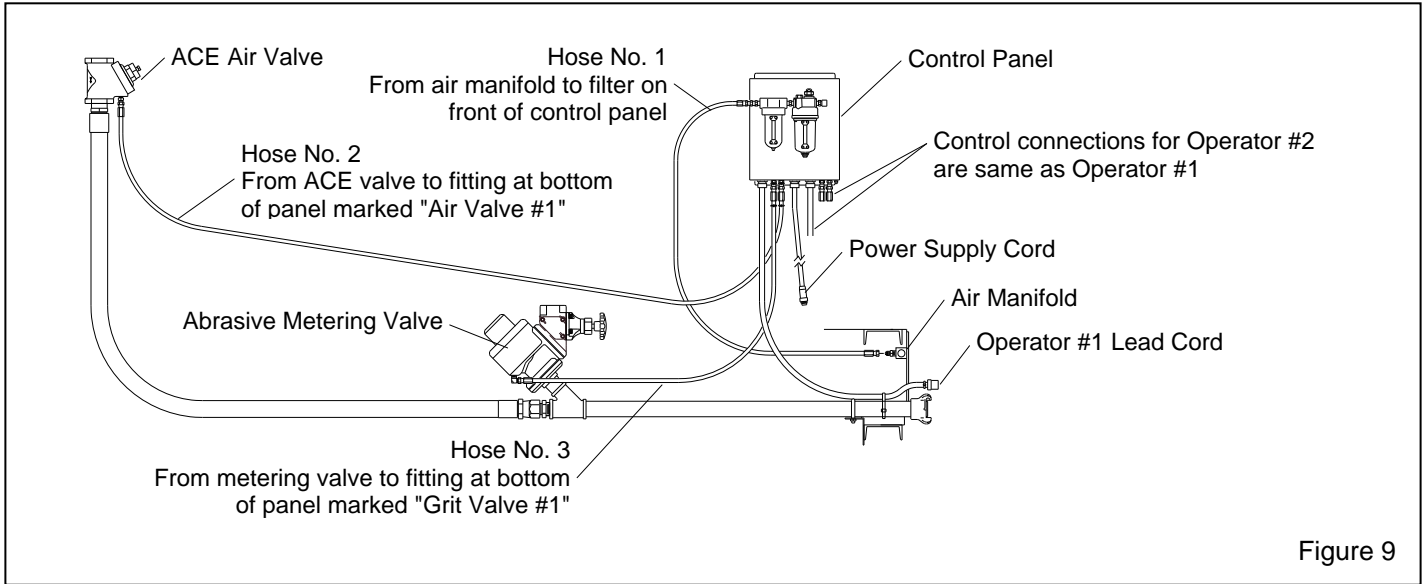

Figure 9
2.4.1 Electric Control Connections, Figure 9.
2.4.1.1 Some control hoses are factory installed and in other instances the control panels are packaged in a separate carton. Install the control panel(s) and use the illustration in Figure 9 to check each station's hose connection. Check one station at a time, working from left to right to make sure no control lines are crossed between one station and another.